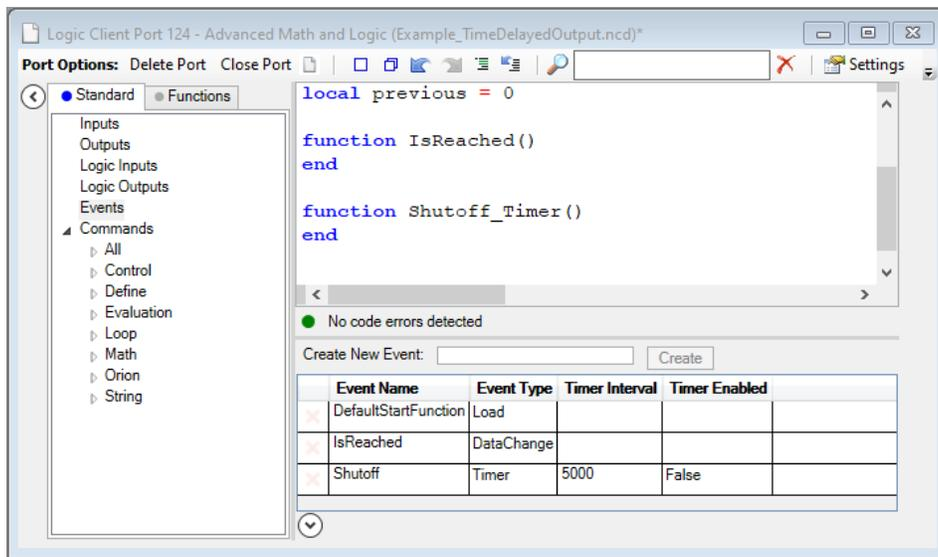

Figure 43: Create Events for Shutoff Logic
Step 1: Create the logic events (Figure 43)
- Set the Timer Enabled to False to disable the timer event as shown below (Figure 43). This timer will only run when enabled in logic.